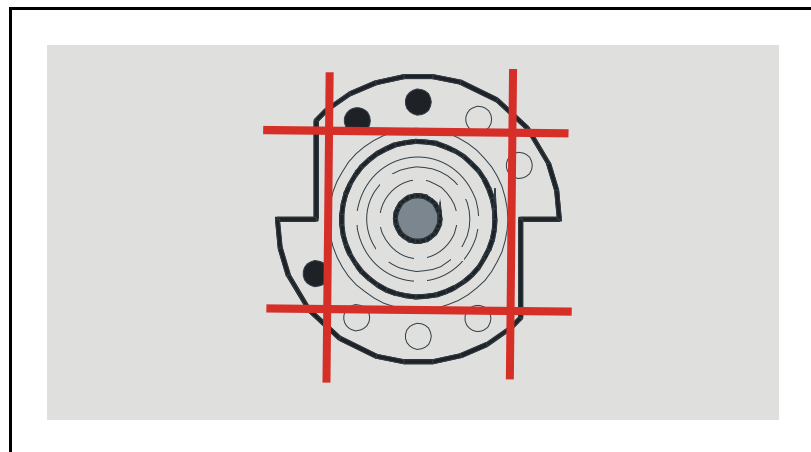

Figure 4-21. Align the tool inside the square.
- When prompted, use the trackball to align the tool's X direction inside the square, see Figure 4-21.
- When prompted, use the trackball to align tool number 4 between the two parallel lines drawn in the graph. (See Figure 4-21 and Figure 4-21 for HC2 respective LSC).